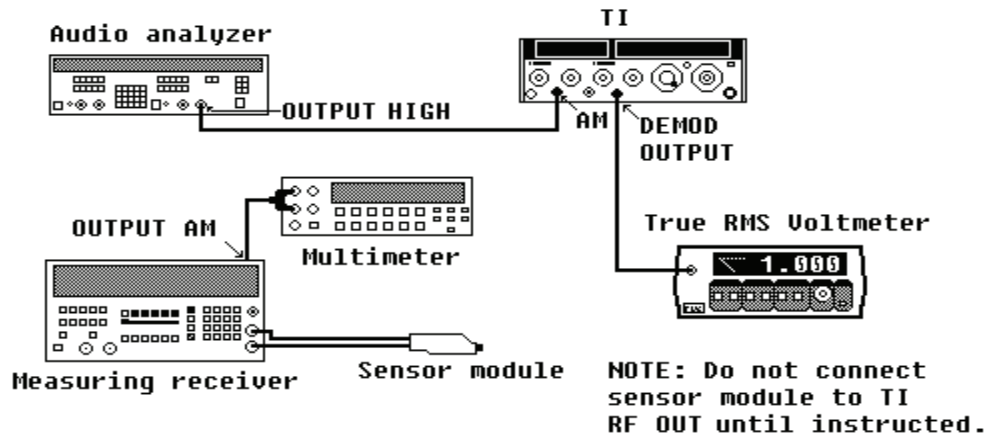

Figure 6. Demodulated output accuracy - equipment setup.
(13) Position controls as listed in (a) through (i) below.
(14) Reduce all outputs to minimum and reconnect equipment as shown in figure 6, leaving TI **RF OUTPUT** disconnected.
- (14) Connect equipment as shown in figure 6 except do not connect the true rms voltmeter.
- (15) Set measuring receiver to measure AM with peak + detector. Set high-pass filter to 50 Hz and low-pass filter to 15 kHz.
- (16) Press measuring receiver **AUTOMATIC OPERATION** and **FREQ MHz** keys.
- (17) Record multimeter dc indication as  $V_{off}$ .
- (18) Adjust audio analyzer controls for a 120 Hz, 600  $\Omega$ , 0.459 V output.
- (19) Connect the measuring receiver sensor module to the **TI RF OUT**.
- (20) Press **AM X10%** pushbutton and adjust **AM** vernier control fully cw.
- (21) Adjust the audio analyzer output for a TI meter indication of 50%. Press **6.2** and **SPCL** keys on measuring receiver.
- (22) Record multimeter dc indication as  $V_{dc}$ .
- (23) Calculate the AC component ( $V_{ac}$ ) using the formula. Round the calculated value to 3 digits and record as  $V_{ac}$ .